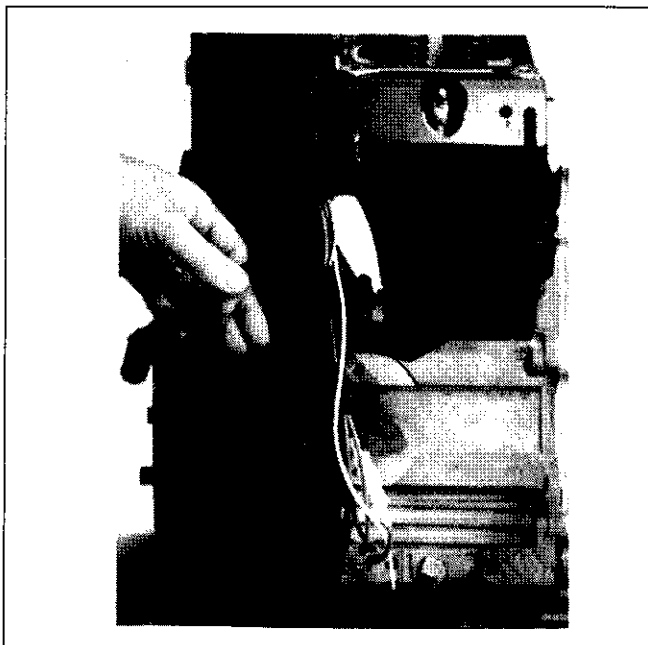

Figure 11-55. Pull Wiring Harness and Leads Out.
2. Pull wiring harness and leads out on appropriate sides. See Figure 11-55.